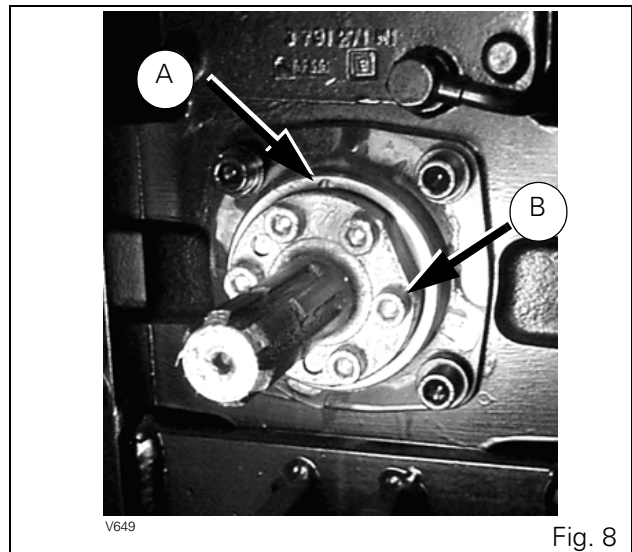

Fig. 8
- The end of the shaft is interchangeable: 6 or 21 splines at 540 to 1000 rpm at 2000 rpm of the engine (Fig. 8):
To change the shaft (Fig. 8):